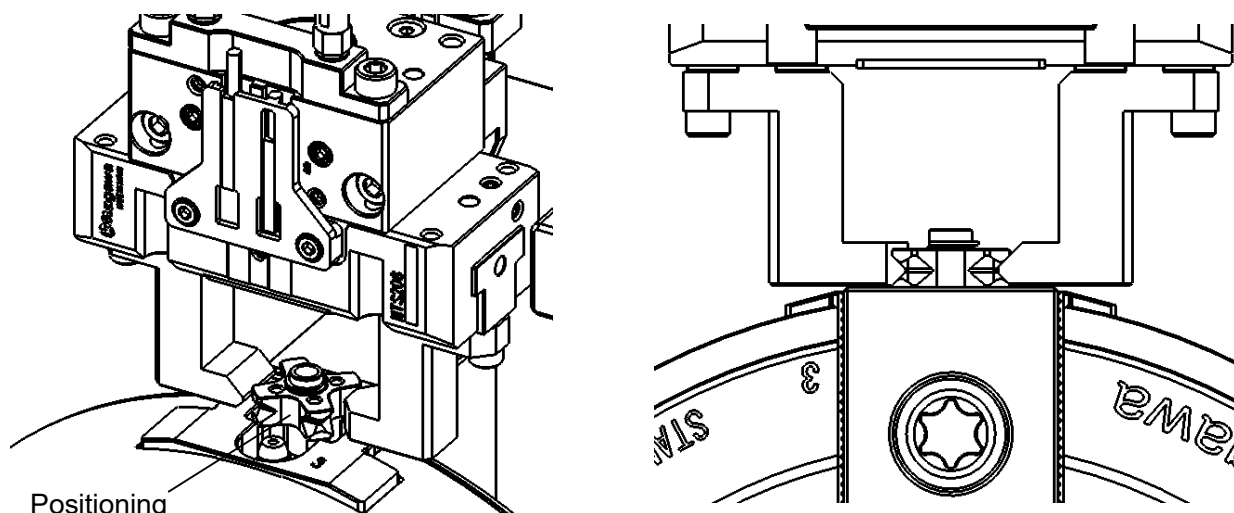

Figure 34 Holding Position
- ① Mount a jaw to the chuck and index it to the jaw change position.
- ② Move the BR-AJC end effector to the positioning nut holding position (Figure 34).